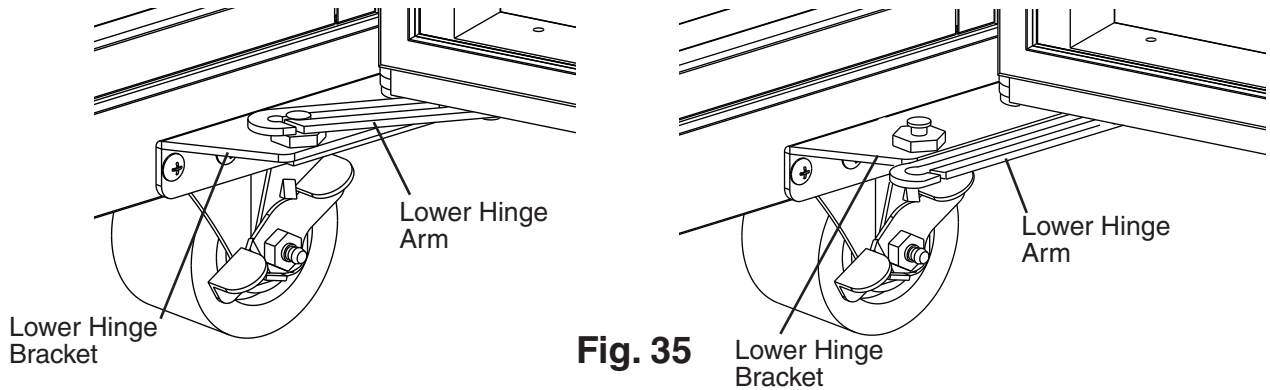

**Fig. 33**
- 4) Turn wrench B counter-clockwise to relieve tension on the tension rod. Without releasing the pressure on wrench B and the tension rod, use wrench A to tighten the lock nut. See Fig. 33.